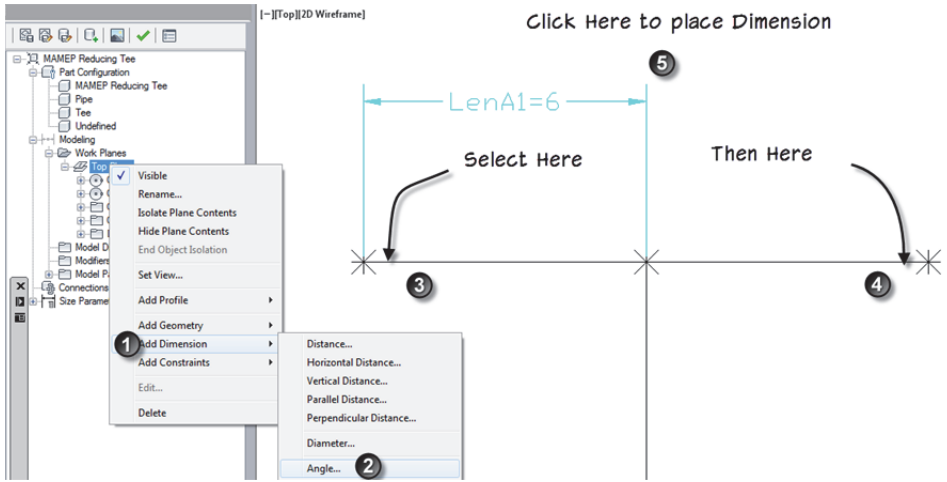

FIGURE 11.9
26. Right-click on Top Plane and choose **Add Dimensions > Angle**. Select the left side of the left horizontal line then select the right side of the right horizontal line and then click above the LenA1 Dimension then type in **180** for the angle (see Figure 11.9).